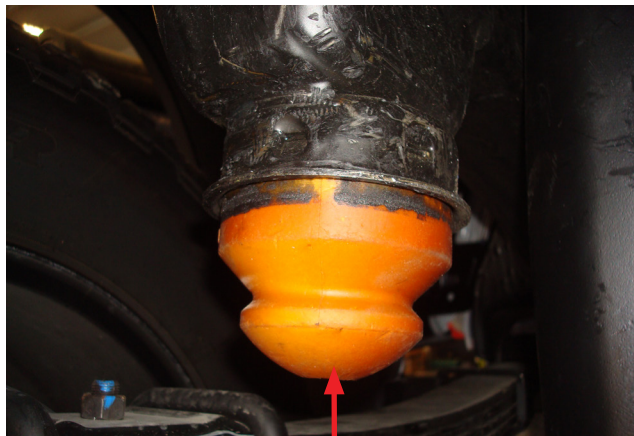

Fig. 3
2. Remove the jounce bumpers from the jounce bumper brackets on both sides by prying them out with a pry bar or large screwdriver (Fig. 3 & Fig. 4).